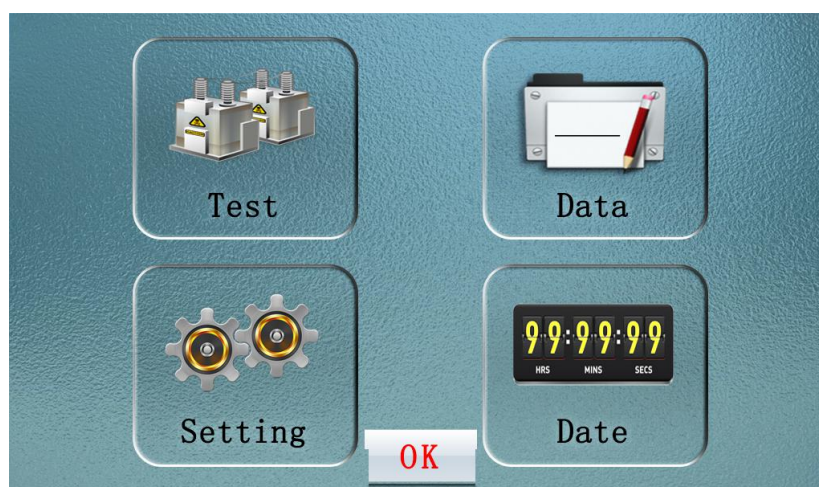
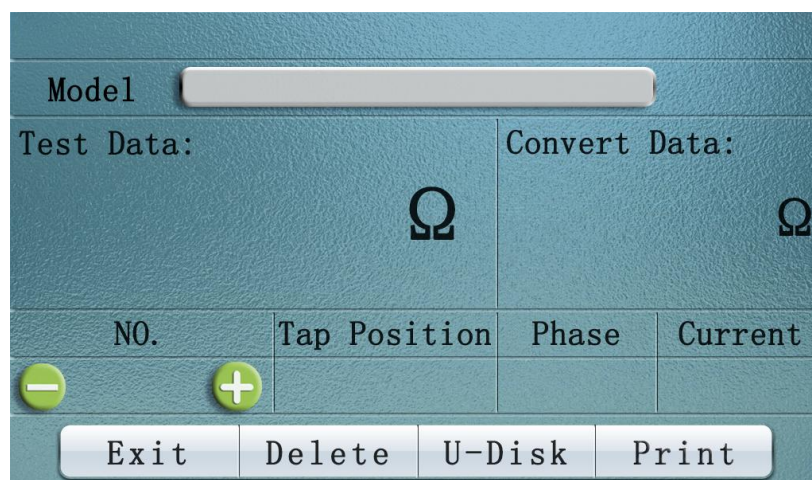

Figure 1
Figure 4
1、 The boot interface is shown in figure 1:
4、Click "Data management" in figure 1 to enter the data query interface, as shown in figure 4:
5、Click "Parameter setting" in figure 1 to enter the "parameter setting" interface, as
6、Click "clock modification" in figure 1 to enter the clock modification interface, as shown in figure 6: